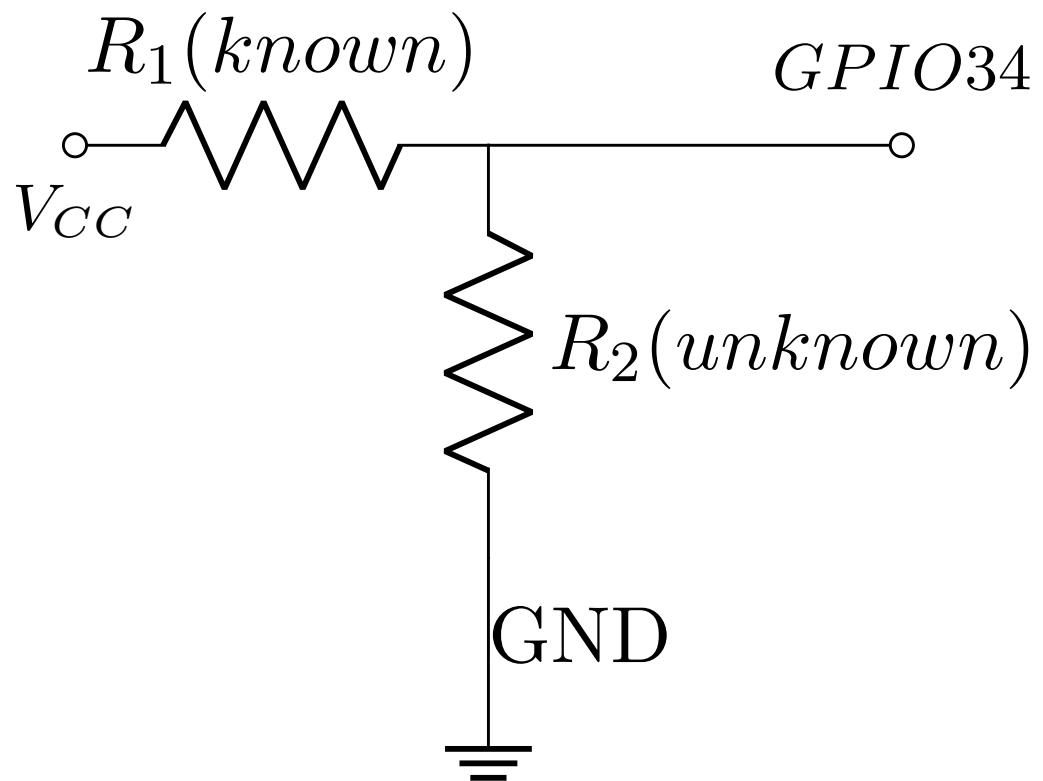

Figure 1.2.3.1: Voltage Divider
in series such that R_1 is connected to V_{cc} and R_2 is connected to GND. Refer to Fig. 1.2.3.1
1.2.4. The Ohm meter in this manual works on the principle of the voltage divider shown in Fig. 1.2.3.1.
- 1.4.3. Let R_1 be the known resistor of 1k ohm and R_2 be the unknown resistor. Connect R_1 and R_2 in series such that R_1 is connected to V_{cc} and R_2 is connected to GND. Refer to Fig. 1.2.3.1.